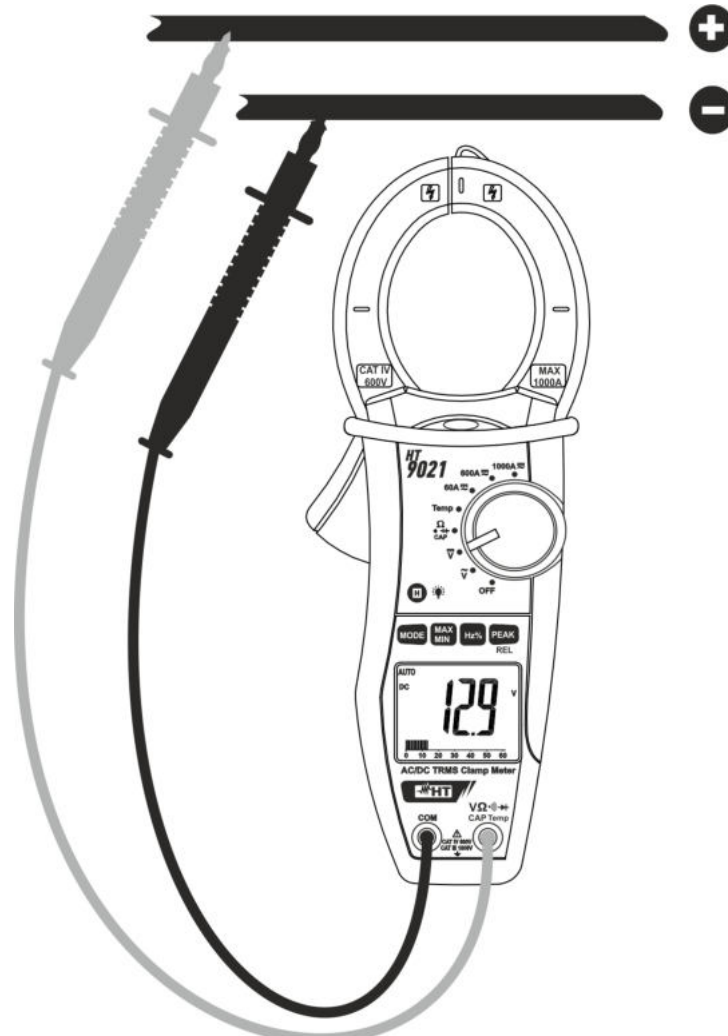

Fig. 4: Taking DC voltage measurements
2. Insert the red test lead plug into  $V\Omega$  jack and the black test lead plug into **COM** jack (Fig. 4)